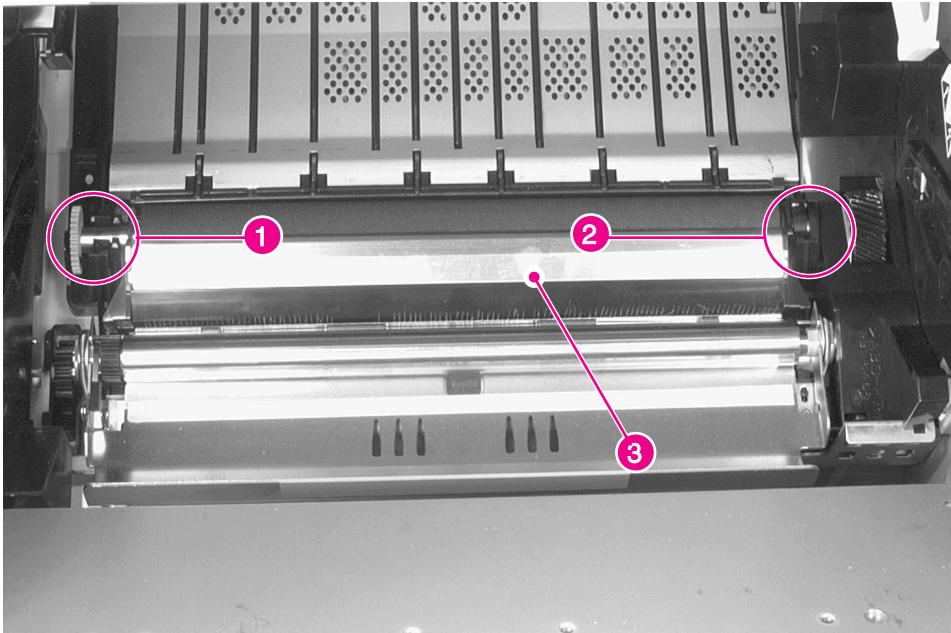

Figure 6-62 Transfer Roller Assembly
- 2 Remove the Transfer Roller Assembly (see figure 6-62 on page 232).
- Transfer Roller (see figure 6-62 on page 232)
- 2 Grasp the gear (figure 6-62, callout 1) on the left end, and carefully lift upward just enough to clear the retainer clip.
- 3 Slide the Transfer Roller Assembly to the left to release the shaft on the right end (figure 6-62, callout 2).
- 2** Hold the Transfer Roller wiper up (figure 6-62, callout 3) and slide the assembly to the right until the gear on the left end is in position.
- 4** Press the Transfer Roller wiper down (figure 6-62, callout 3) until the retaining clips snap into place.